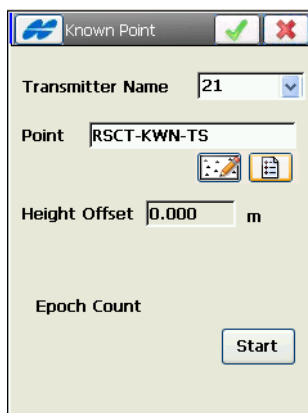

Figure A-9. Select Rover's Point and Begin Averaging
2. Select the Rover's known point using the **map** or **list** icons, then tap **Start** (Figure A-9).